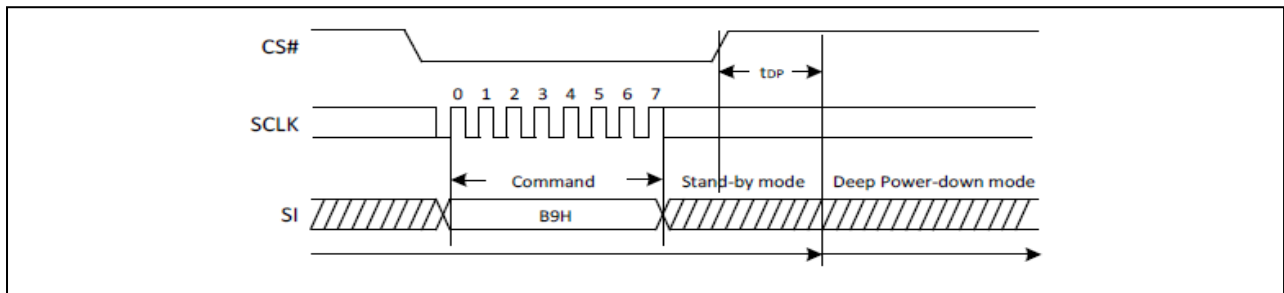

Figure23. Deep Power-Down Sequence Diagram
The Deep Power-Down command sequence: CS# goes low, sending Deep Power-Down command, CS# goes high. The command sequence is shown in Figure 23. CS# must be driven high after the eighth bit of the command code has been latched in; otherwise the Deep Power-Down (DP) command is not executed. As soon as CS# is driven high, it requires a delay of t_{DP} before the supply current is reduced to ICC2 and the Deep Power-Down Mode is entered. Any Deep Power-Down (DP) command, while an Erase, Program or Write cycle is in progress, is rejected without having any effects on the cycle that is in progress.